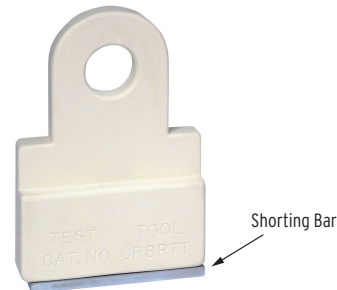
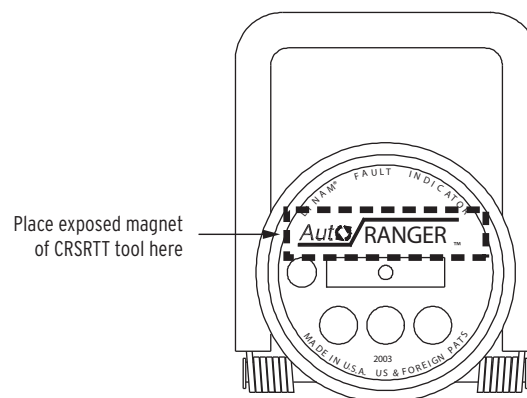
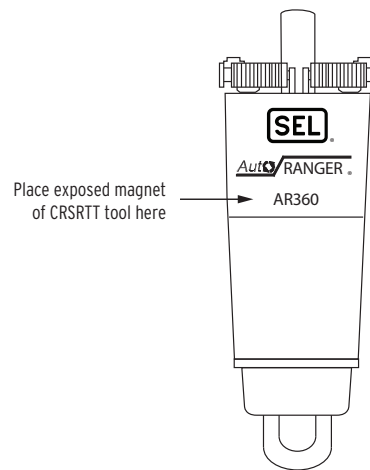

Figure 17 CRSRTT Tool With Shorting Bar
Figure 18 Placement of CRSRTT Tool on AR-OH
Figure 19 Placement of CRSRTT Tool on AR360
The AR-OH and AR360 have a reed switch with which a user can reset a flashing unit (either permanent or momentary mode flashing) and monitor the embedded battery status. The CRSRTT tool (*Figure 17*) is used to open and close the switch. This tool closes the switch only if applied to a certain location on the devices, as *Figure 18* and *Figure 19* show. To reset a flashing unit or to check battery status, apply the CRSRTT as described in *Test Activation and Manual Reset* on page 13.
The test-activation feature of the AR-OH and AR360 allows you to verify that the fault indicator battery is still operational. Use the test tool (SEL part number CRSRTT, *Figure 17*) for field testing the AR-OH and AR360.
- Step 2. Position the exposed magnet directly onto the AutoRANGER logo on the face of the FCI, holding the tool parallel to the label (*Figure 18*).